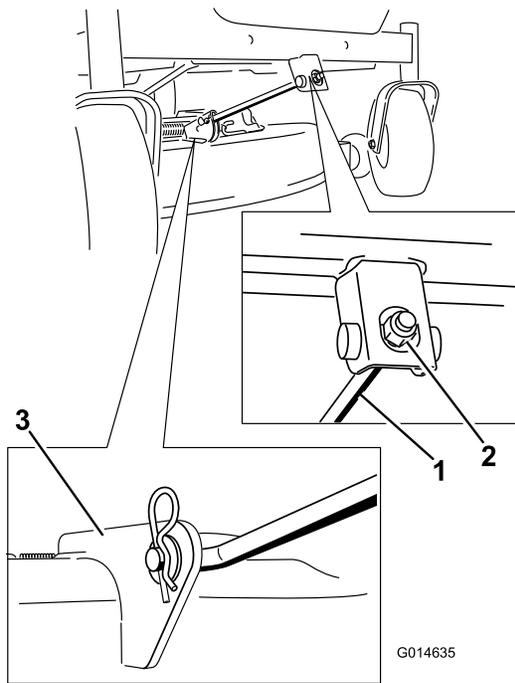

Figure 56
- Remove the hairpin cotter from the front support rod and remove the rod from the deck bracket (Figure 56). Carefully lower the front of the mower deck to the ground.
- Attach the front support rod to the mower deck with the clevis pin and hairpin cotter (Figure 56).